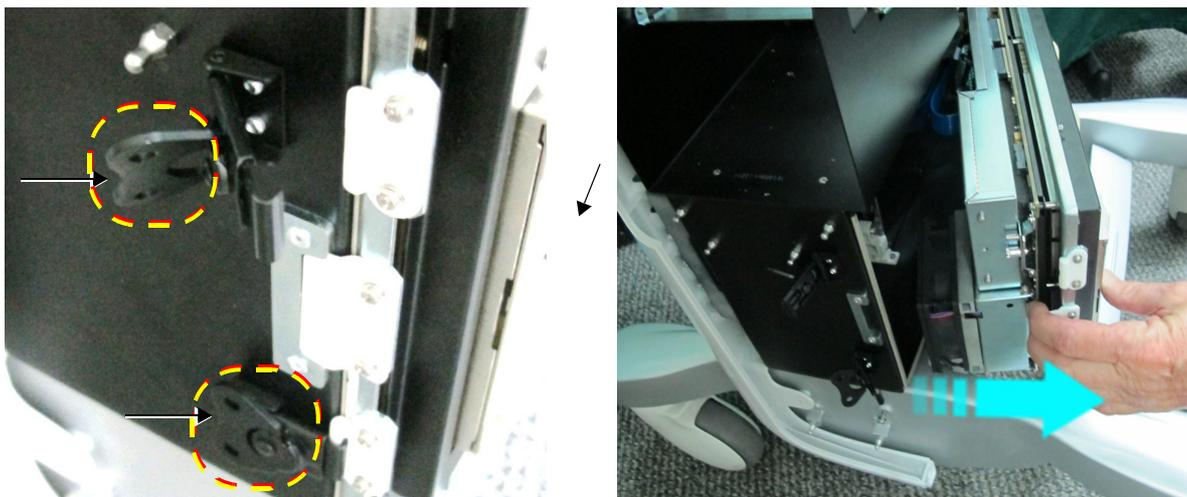

Figure 8-134 Unfastening the Latches and Opening the Cage Door
2) Open the two fastening latches on the left side of the Front End door assembly and carefully open the cage door. (Figure 8-134).
- 8.) Close the two fastening latches on the left side of the Front End door assembly (Figure 8-134).